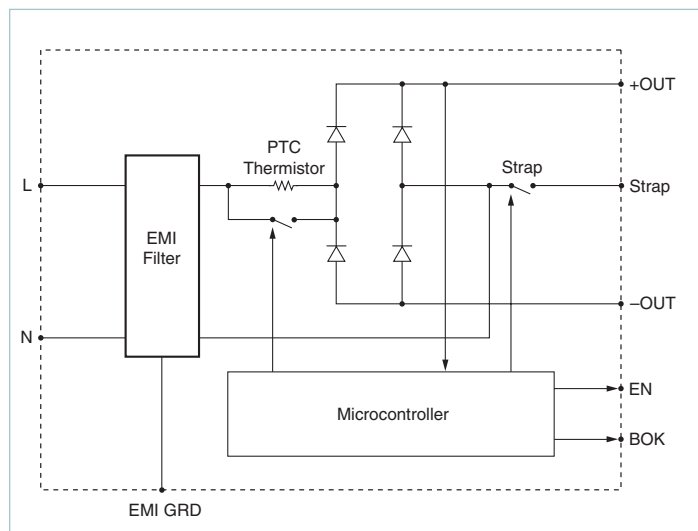

Figure 7 — Functional block diagram: autoranging rectifier
**Initial Conditions:** The switch that bypasses the inrush limiting PTC (positive temperature coefficient) thermistor is open when power is applied, as is the switch that engages the strap for voltage doubling. (See Figure 7). In addition, the converter modules are disabled via the Enable (EN) line, and Bus OK (BOK) is high.